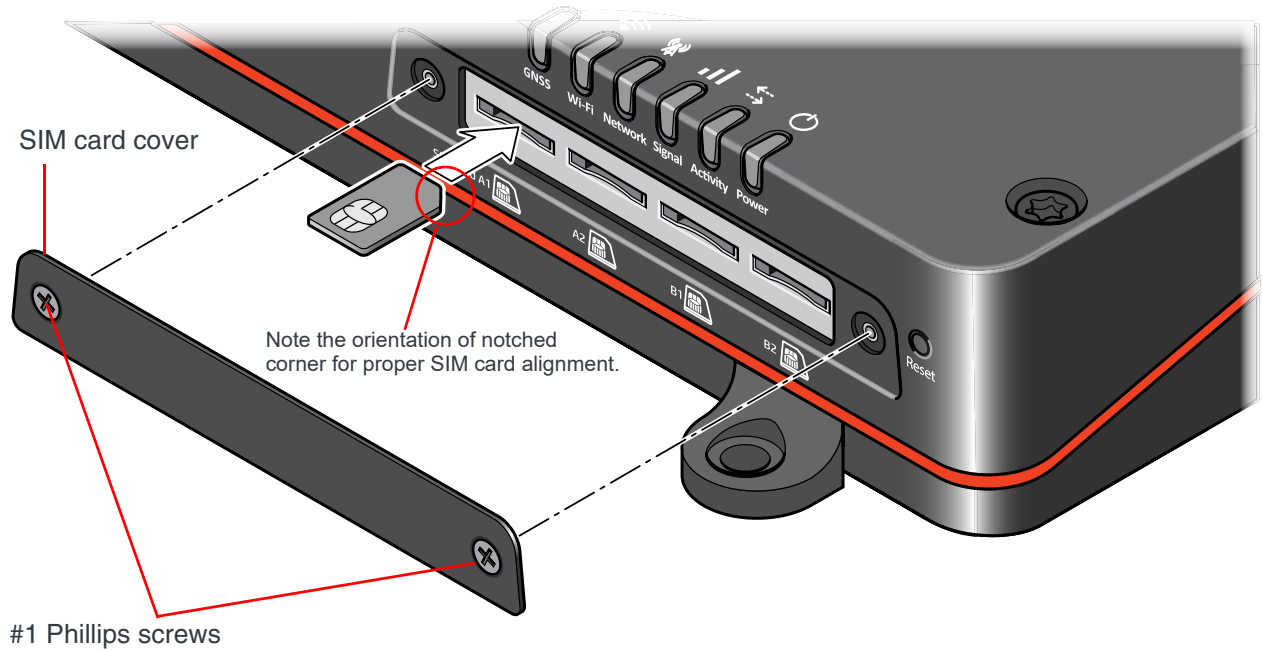

Figure 2-1: Installing the SIM Cards
The MG90 has four mini-SIM (2FF) card slots—two slots for each radio module (up to two radios). The card slots are located behind a removable plate on the front of the device as shown in Figure 2-1 on page 14.
2. Orient the SIM card(s), as shown in Figure 2-1 (Gold contacts on the SIM cards face-up).